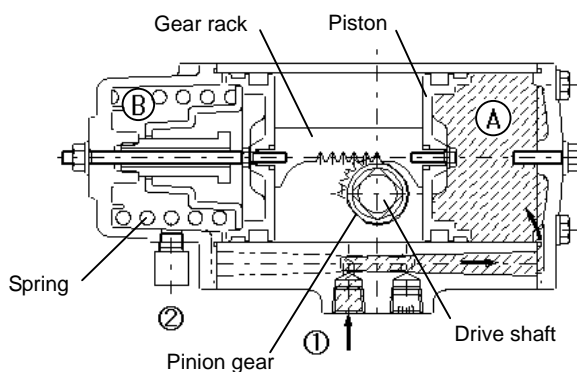

Fig1
- (1) The Air pressure supplied into the chamber A through the inlet pushes the piston-gear rack assembly toward the left, compresses the spring and discharges the air residue left in the chamber B through the outlet (Fig 1).
- (2) At the same time the gear rack rotates the pinion gear and the shaft counter-clockwise, to drive the valve.
- (3) At the moment the air in A is discharged through the solenoid valve, the spring force pushes the piston and the gear rack to the reverse direction, and the gear rack activates rotation of the shaft clockwise to reversely operate the valve.